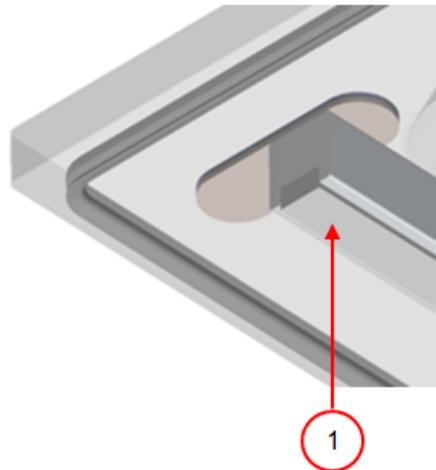

Figure 7: Replacing the Silicone Rubber of the Silicone Holders
1. Pull the old silicone rubber from the holder, see *Figure 7: Replacing the Silicone Rubber of the Silicone Holders* on page 27.